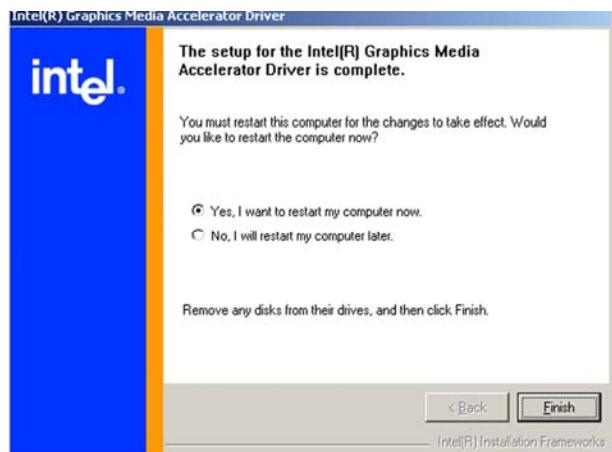

Figure 7-14: GMA Driver Installation Complete
Step 28: A confirmation screen shown in **Figure 7-14** appears.
Step 29: After selecting when to restart the computer in **Figure 7-14**, click **FINISH**.